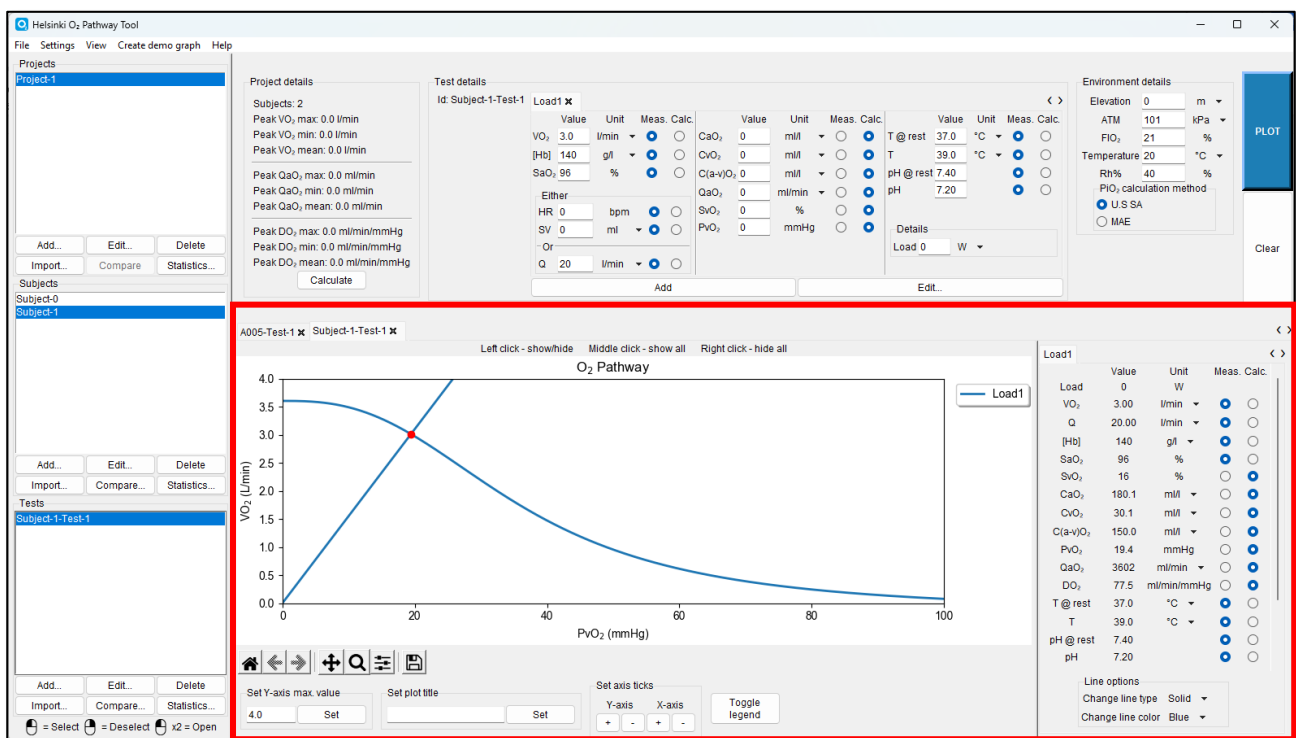

Figure 38
6. If the values given are valid, the figure is shown in the plot panel (Figure 38).